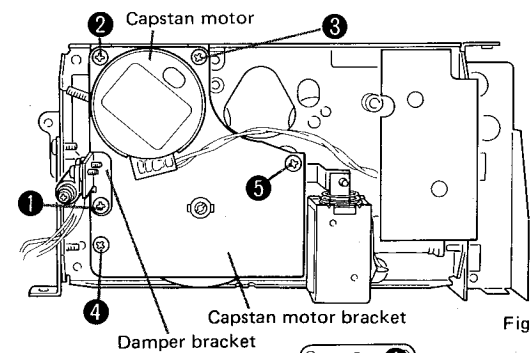

Fig. 16
1. Remove the screw 1 in Fig. 16 and then remove the damper bracket.
2. Remove the screws 2 to 5 in Fig. 16 and remove the capstan motor bracket. At this time the main belt should have been removed from the capstan motor pulley.